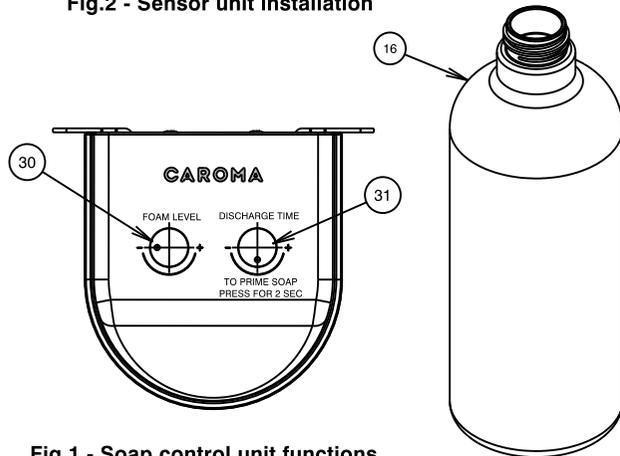

Fig. 1 - Soap control unit functions
- * Only water based foam soap must be used. Use of non-foam liquid soap may cause blockage and damage the system. The foam level knob (30) can be turned towards (+) or (-) to increase or decrease the air amount until a smooth & consistent foam is dispensed. Fig. 1
- * Soap control unit must be primed before first use and after every refill. Follow priming instructions, as shown in Fig.1.
- * The soap control unit (12) is mains powered only. Separate battery box is supplied which can be used as a battery backup.